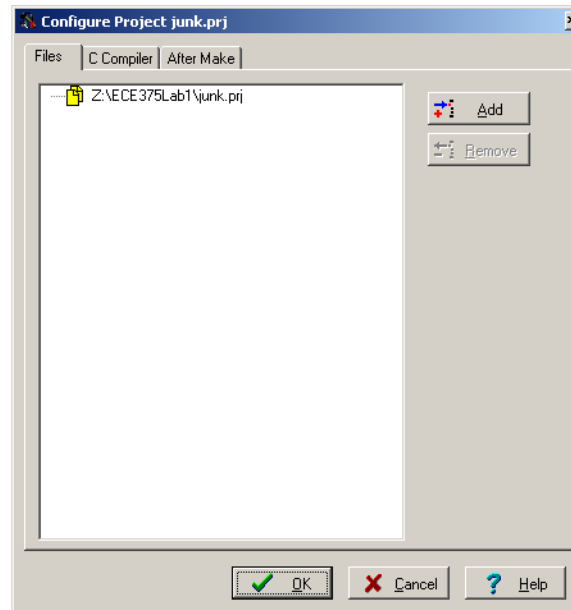

Figure 1: Project Setup Screen
- Open the CodeVision Integrated Development Environment (IDE) and select 'New Project.' You have two options here, either run the 'Wizard' or don't. The wizard for CodeVision will quickly generate values to be stored in specific places in the AVR to setup peripheral devices like the A/D converters and the serial port. We don't need to do this, so don't use the wizard. You are asked to name your project. Put the project file in its own directory with the source code you got from the web. CodeVision creates a lot of files so you don't want to put it just anywhere. After you have named the file, a short 'selection' screen pops up, as shown in Figure 1. Click 'Add' and add the code you downloaded. Click the top tab called 'Compiler' to bring up the compiler options.